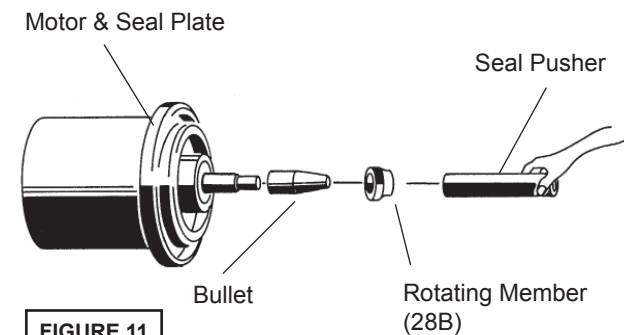
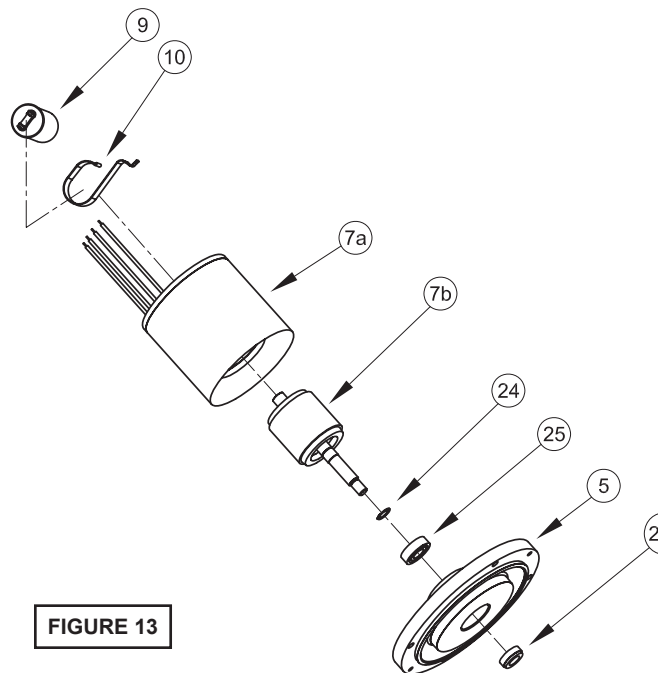

FIGURE 11
FIGURE 13
Use needle nose pliers to pull each female connector off of the pins on the underside of the terminal block (21), see Figure 11. The unit voltage should be noted. Repeat cable and terminal block removal procedure for any control cables (56) if equipped. Remove socket head cap screws (47). Vertically lift the motor housing (6) from seal plate (5) by lifting handle (13). Inspect square ring (27) for damage or cuts. Remove the motor bolts and lift motor stator from seal plate (5). Disconnect capacitor leads from capacitor (9, single phase units). Examine bearing (25) and replace if required. If replacement is required, remove bearing (25) from motor shaft using a wheel puller or arbor press, see Figure 13.